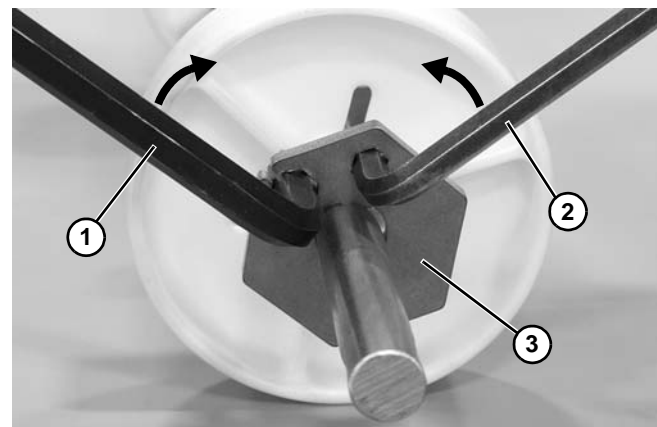

Figure 114
2. Insert an 8 mm (Figure 114, item 1) and 6 mm (Figure 114, item 2) hex wrench into the retainer plate.
3. Move wrenches toward each other to unlock the retainer plate (**Figure 114, item 3**) and remove from the shaft.